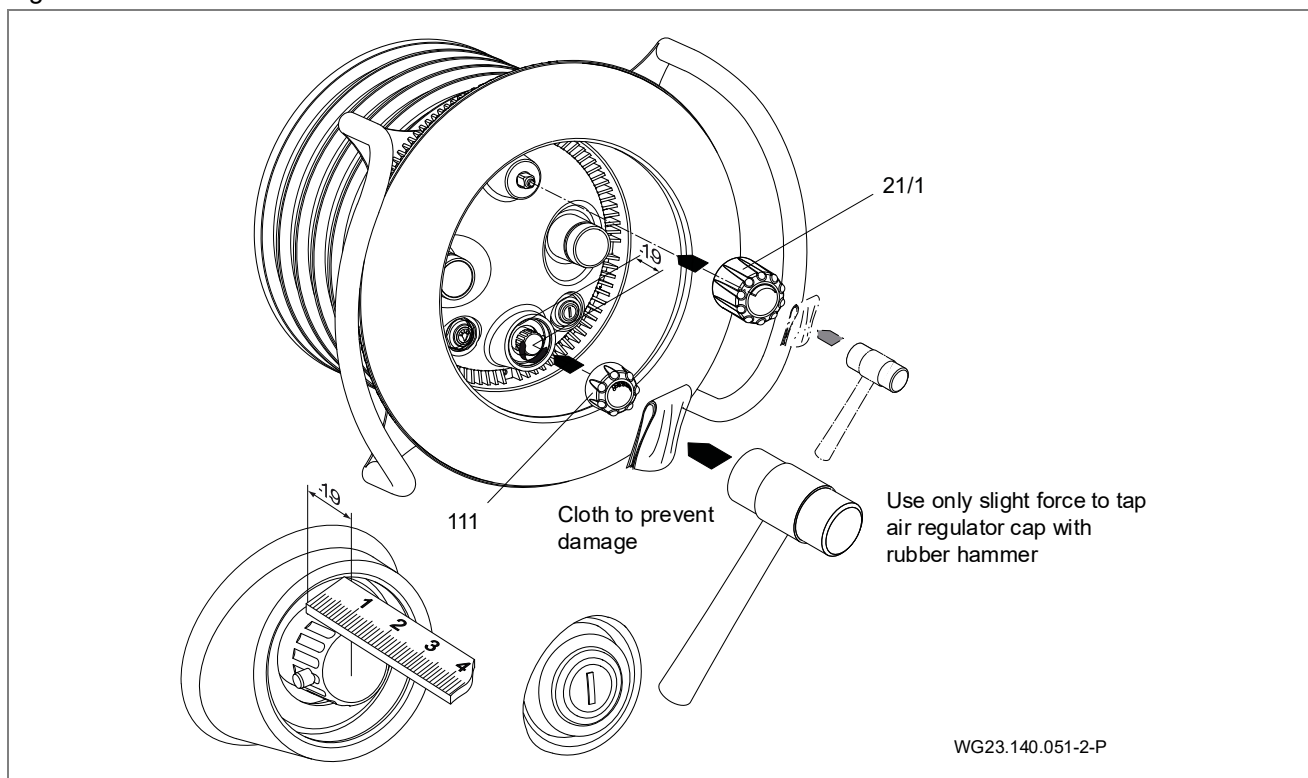

Fig. 21
12. Slide one O-ring (37) onto each pneumatic button (38/1; 38/2). Fasten the pneumatic hoses to the corresponding buttons using the hose clamps (46). Insert the two pneumatic buttons through the light cover (110) in the nozzle housing and lock by turning it clockwise. (Fig. 21)